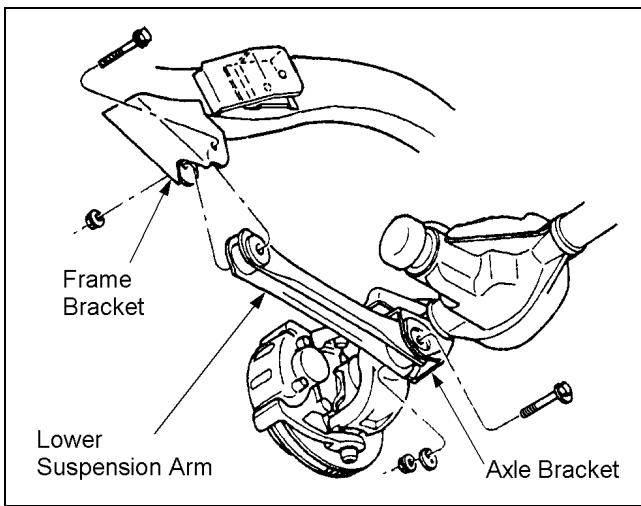

Figure 5
4)  Remove the nut, cam, and cam bolt from the axle bracket. Remove the nut and bolt from the frame bracket. Remove the lower suspension arm. See Figure 5.